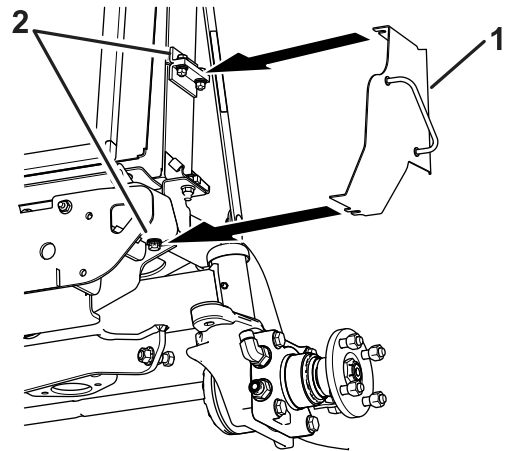

Figure 7
12. Loosen the bolts on the side of the radiator (Figure 7).
13. Slide the cooler-shroud bracket under the bolt heads on the radiator and bumper bracket (Figure 7).